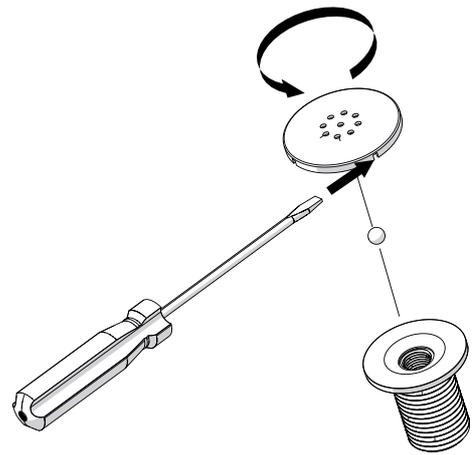

Figure 5.2
- Loosen the caps on the jet nozzles with a slotted screwdriver (Figure 5.2). Press the screwdriver into one of the four slots on the side of the nozzle cap.